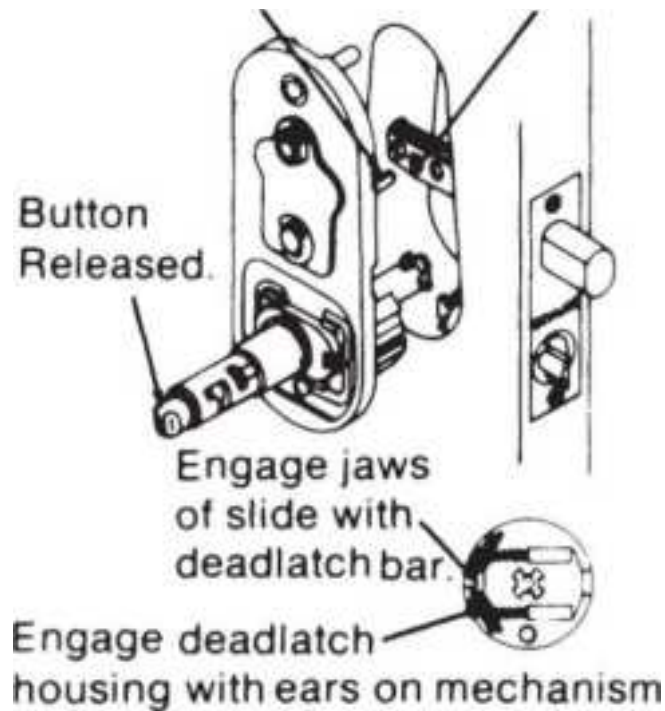

**Figure 13.63** Install mechanism.
10. Install the inside mechanism with the knob button released and the crank bar in the vertical position. Insert the end of the crank bar in the slot on the deadbolt (Fig. 13.63). Engage the jaws of the slide with the deadlatch bar, and engage the deadlatch housing with the ears on the inside mechanism. This sounds more confusing than it is; see the insert for Fig. 13.63.